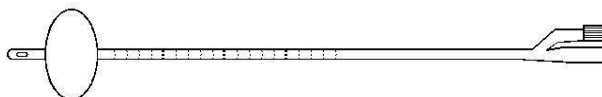

Figure 2 - The Foley-type Marking Catheter
2. A Foley-type catheter with markings (for indicating the landmarks) (Figure 2)